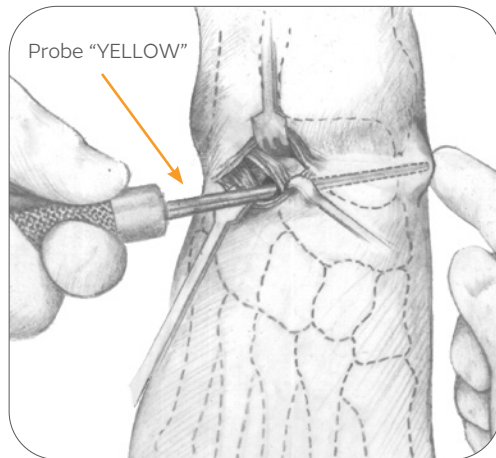

Figure 2-1
**2-1** Insert the yellow probe instrument through the sinus tarsi into the sinus canalis from lateral to medial until tenting is noted on the medial aspect of the foot (**Figure 2-1**).